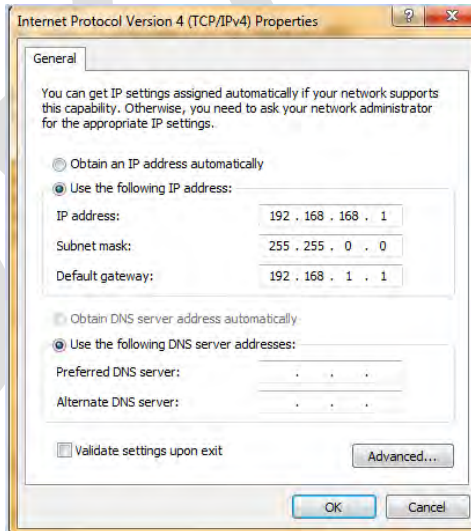

Fig 5
- f. When the Properties window opens click the “**Use the following IP address**” and fill in the “**IP address**”, “**Subnet mask**” and “**Default gateway**” as shown and click “**OK**”. Fig 5